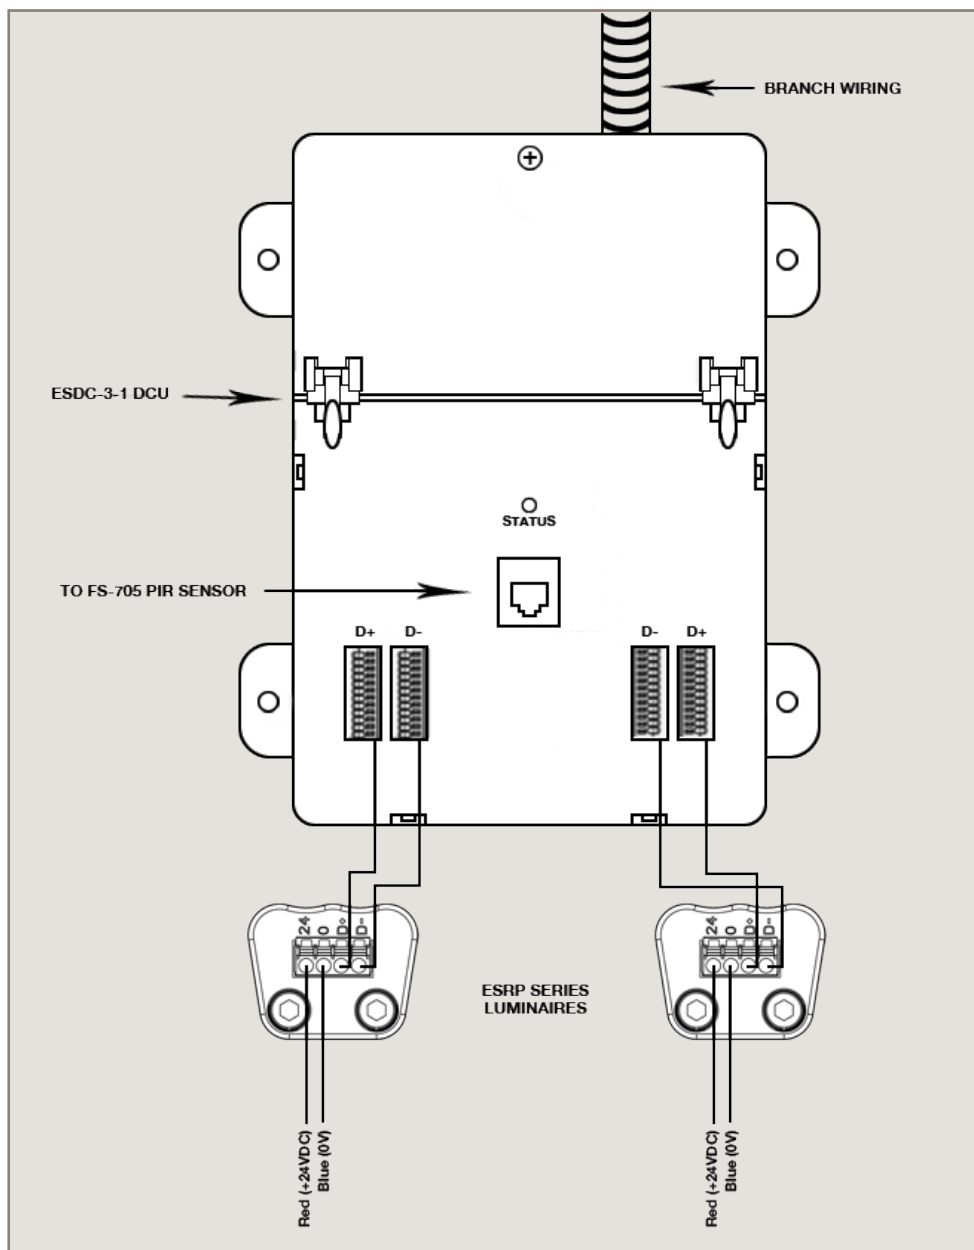

Figure 5: Wiring of ESDC-3-1 DCU
5. Remove the connector plug from the receptacle at the end of the EcoStar unit. Strip the wires of the wiring cable to a length of 3/8". Recommended cable is solid 18AWG NEC Class 2 cable or a cable required by local code. Insert the +24VDC wire into the far left wire clamp (orange button side with buttons on the top) of the connector plug and the 0V wire in the second from the left wire clamp (Figure 3). Plug the connector plug back into the receptacle at the end of the EcoStar unit. Note that the plug is keyed and can be plugged only one way into the receptacle. See wiring diagram in Figure 5 (page 7) for EcoStar system wiring.
7. Wire the ESDC-3-1 DCU to all EcoStar units to be controlled by the DCU. Run a 2 conductor cable from the ESDC-3-1 DCU to each EcoStar unit as shown in Figure 5. Recommended cable is solid 20AWG NEC Class 2 cable or a cable required by local electrical code. Up to 24 EcoStar units can be wired to a single ESDC-3-1 DCU. Wire the D+ wire trap of each EcoStar unit to any of the wire traps located on the D+ terminal blocks of the DCU. Wire the D- wire trap of each EcoStar unit to any of the wire traps located on the D- terminal blocks of the DCU. Repeat until all EcoStar units are wired to their respective DCUs.